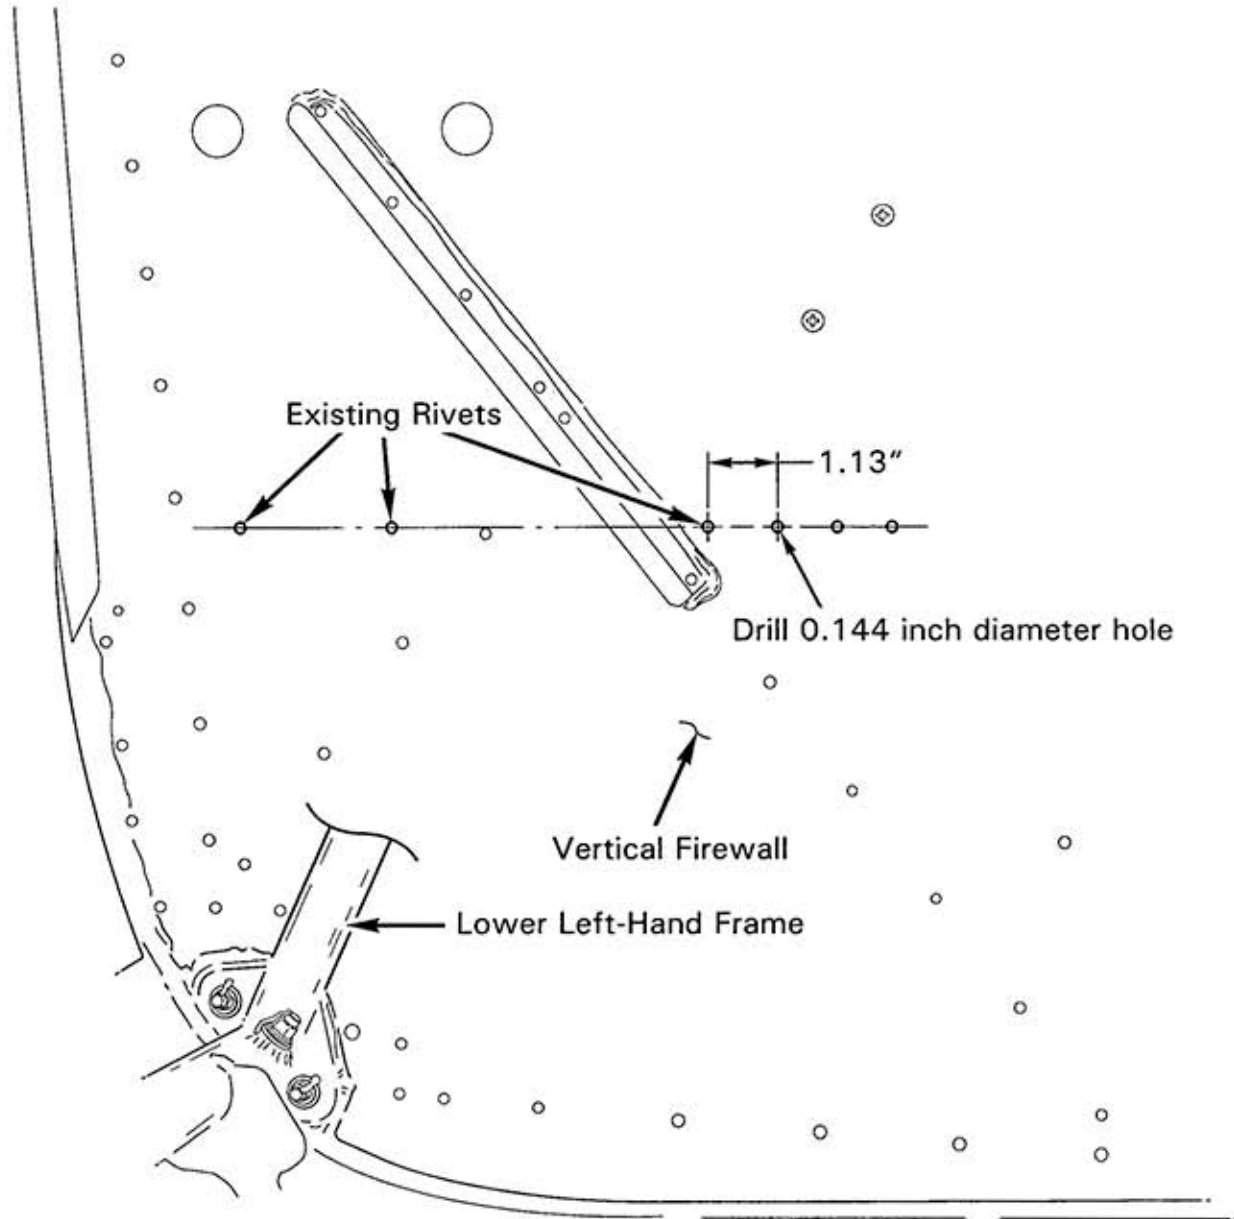

FIGURE 3 FUSE BLOCK HOLE LOCATION FOR R44 WITH AFT BATTERY
3. Refer to Figure 3. Lay out hole location on right-side console panel angle. Drill 0.144-inch diameter hole and deburr. Clean up debris.